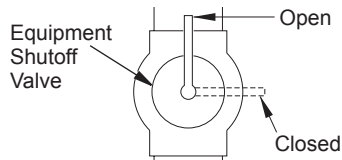

Figure 8 - Equipment Shutoff Valve
1. Close equipment shutoff valve (see Figure 8).
1. Open equipment shutoff valve (see Figure 8, page 9).
3. Close equipment shutoff valve (see Figure 8, page 9).